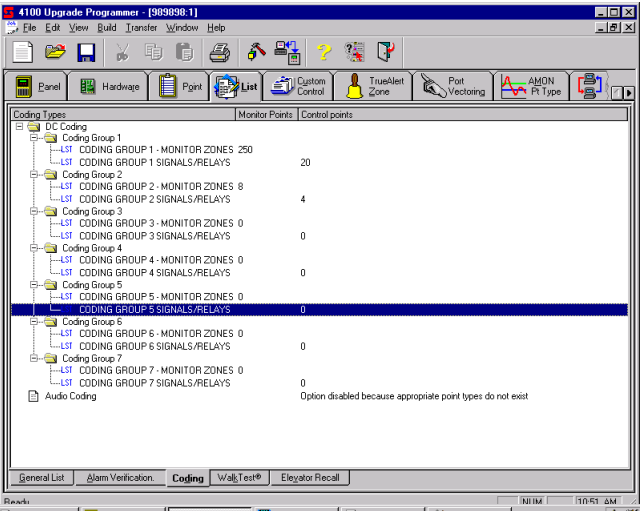

Figure 8-6. Coding Tab
2. Click on the Coding tab at the bottom of the List Window. A screen similar to the one shown in Figure 8-6 appears.
- 1. Click on the WalkTest tab at the bottom of the List Window. Figure 8-6 appears.